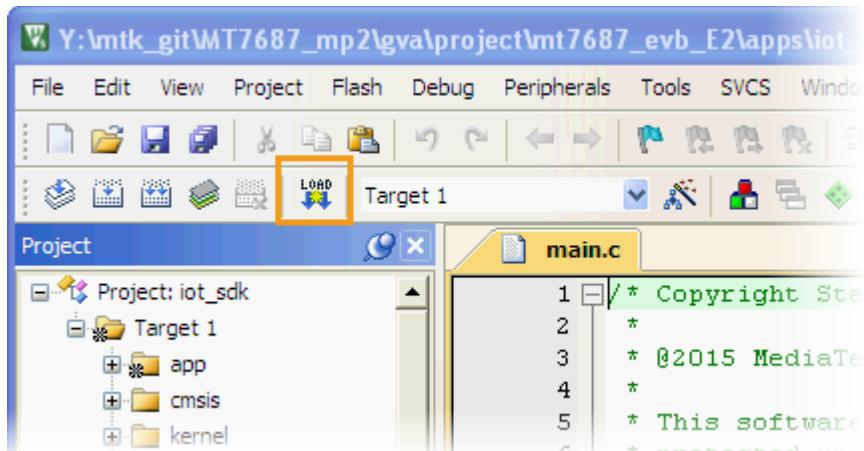

Figure 57. Download the project binary
- 9) Reset the board and then click **LOAD** to download the project binary to target (see Figure 57).